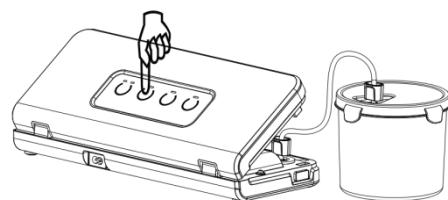

Figure 9
4. Press the MANU Button to start vacuuming. The appliance will stop automatically when enough vacuum pressure is achieved (**as shown in Figure 9**);